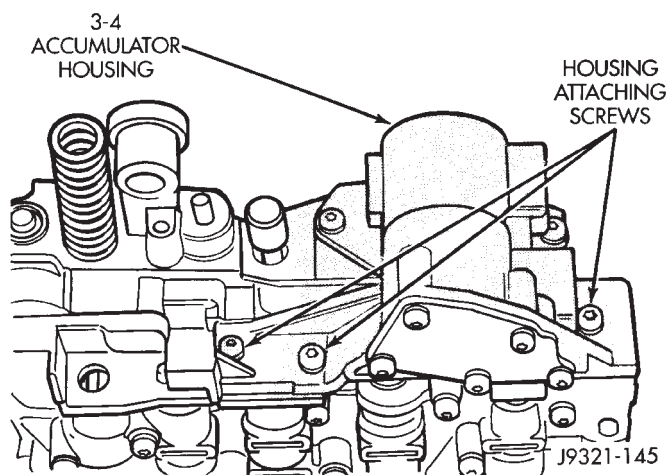

Fig. 102 Removing 3-4 Accumulator Housing
(15) Remove 3-4 accumulator housing attaching screws and remove housing from valve body (Fig. 102).